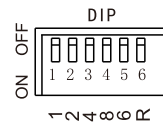

Fig. 2
- (1) DIP switches: SW1~SW3 for programs selection, please see Attached Table (1=ON, 0=OFF). SW4 and SW5 are blank; SW6 for remote control (see fig. 2)